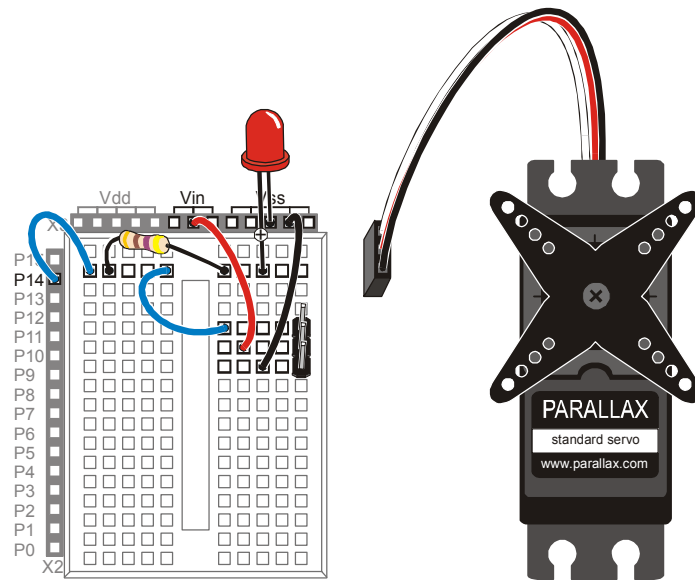

Figure 4-10
- √ Build the LED indicator and servo header circuit shown in Figure 4-10.